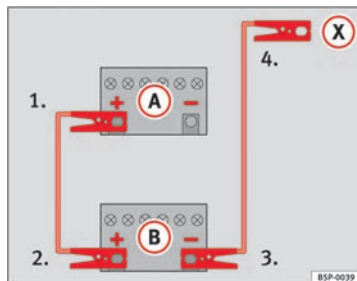

Fig. 201 Diagram of connections for vehicles without Start-Stop system
- Connect one end of the *red* jump lead to the positive \oplus terminal of the vehicle with the flat battery \textcircled{A} ⇒ Fig. 201.
- Connect one end of the *black* jump lead to the negative terminal \ominus of the vehicle providing assistance \textcircled{B} ⇒ Fig. 201.